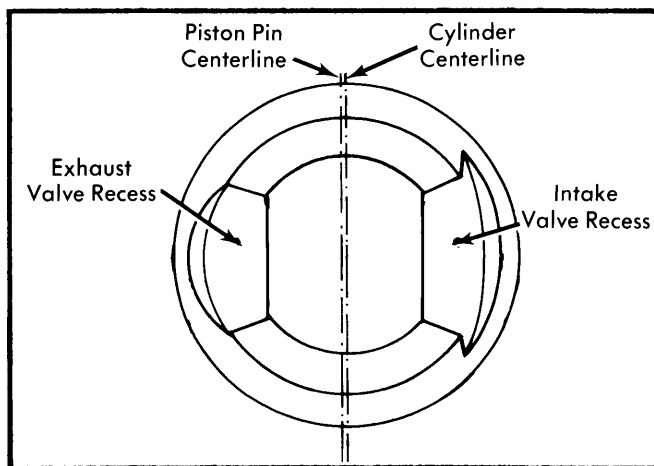

Fig. 9 Piston Crown Viewed From Top
4) When installing pistons on connecting rods, be sure the intake valve recess (See Fig. 9) in the piston crown is on the